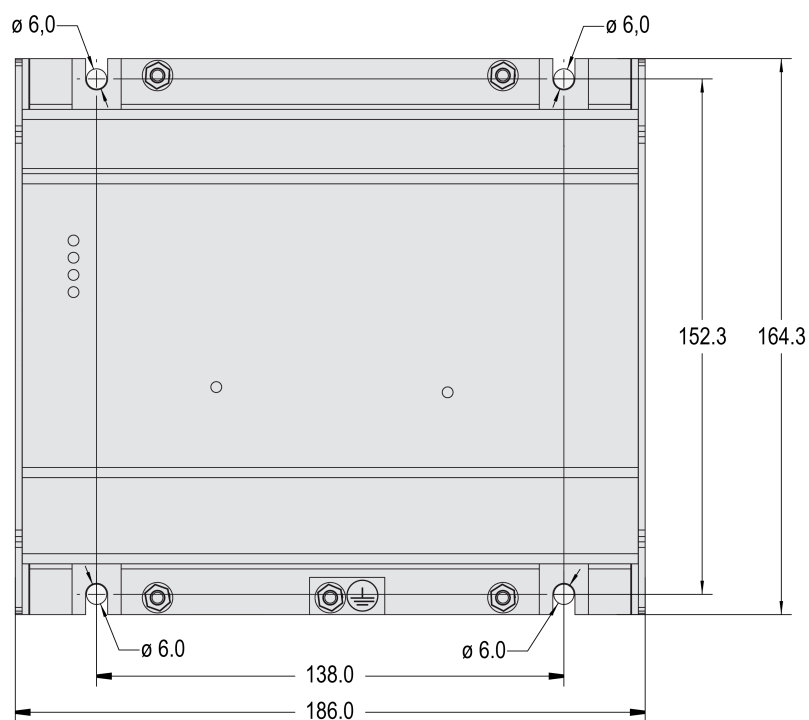

Fig. 7: Housing - drill plan
1. Drill the holes according to the dimensions in Fig. 7 (dimensions shown in mm).